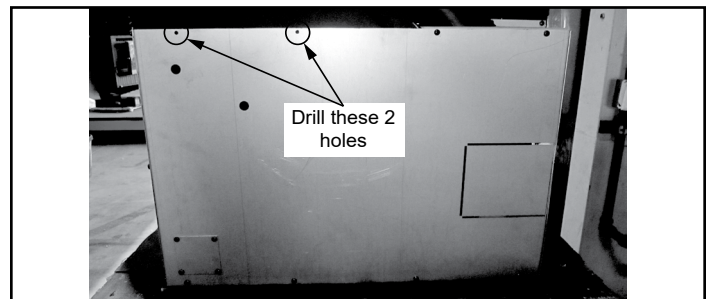

Figure 22.8
11. Using the electric drill with #26 drill bit; drill 2 holes into the back of the hopper. Add two screws to secure shroud assembly to the appliance (**Figure 22.8**).